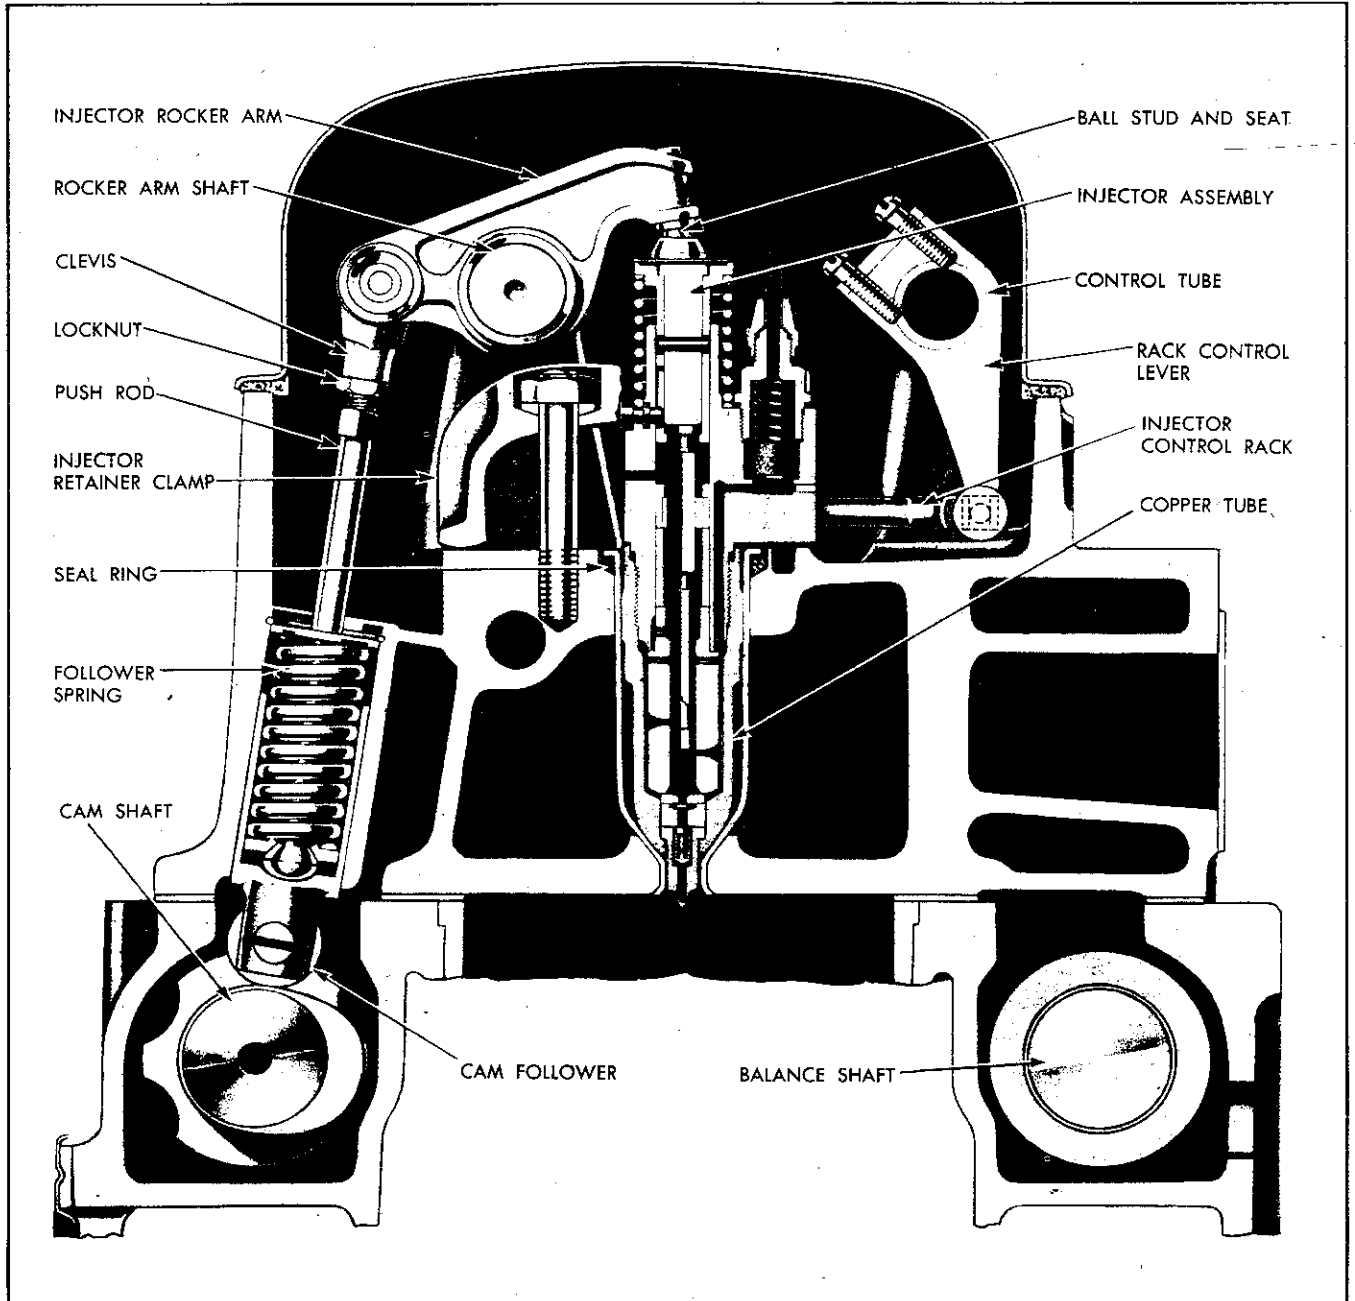

Fig. 1—Fuel Injector Mounting.
**Injector Control**—Each injector control rack is connected by an easily detachable joint to a lever on a common control tube, which, in turn, is linked to the governor and throttle. These levers can be rotated independently on the control tube by the adjustment of two screws which permit a uniform setting of all injector racks. (See Fig. 1, Sec. 16, for governor to injector linkage.)